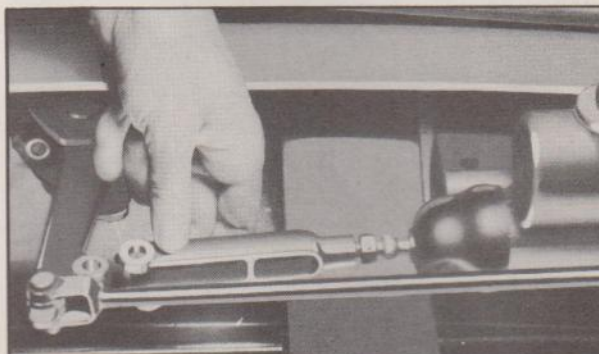

Fig. 11—Adjusting Pedal Toe-Board Clearance
- Remove clevis pin and turn the clevis attached to the main cylinder push rod, Fig. 11, in the proper direction to secure  $\frac{1}{4}$ " toe-board clearance—measurement being taken between pedal arm and underside of toe-pan.